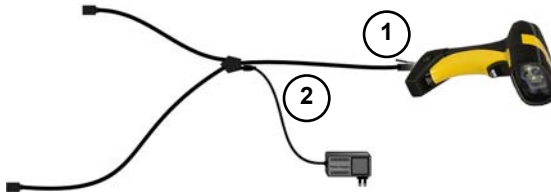

Figure 4 – Reader Wedge Connections
1. Make all the PowerScan® D8530 reader connections as shown in Figure 4: